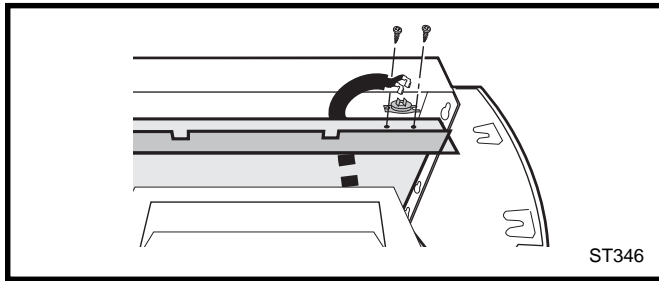

Fig. 9 Attach snapstat to inner shroud.
- Feed the snapstat wire lead up between the inner and outer rear shroud panels and secure the snapstat to the upper right side of the inner shroud. (Fig. 9)